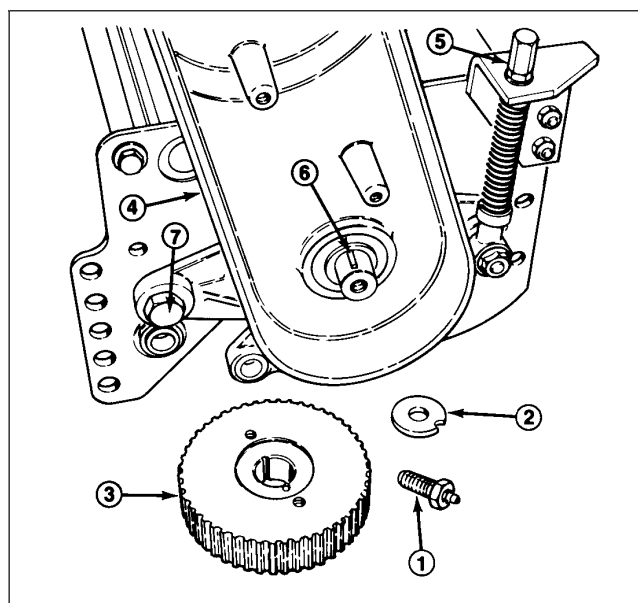

Figure 22
5. Disassemble the cover from the drive housing and remove the drive belt from the housing (Fig. 22).
6. Remove the reel capscrew, toothed washer and pulley washer from the reel shaft (Fig. 22). (Note: Cap-screw is assembled with a thread locking compound).
7. Using a puller, remove the driven pulley from the reel shaft (Fig. 22). Remove the woodruff key from the reel shaft.
8. Remove the adjustment assembly and cone nut, belleville washer and shoulder bolt securing the housing to the side plate (Fig. 22). Remove the housing.